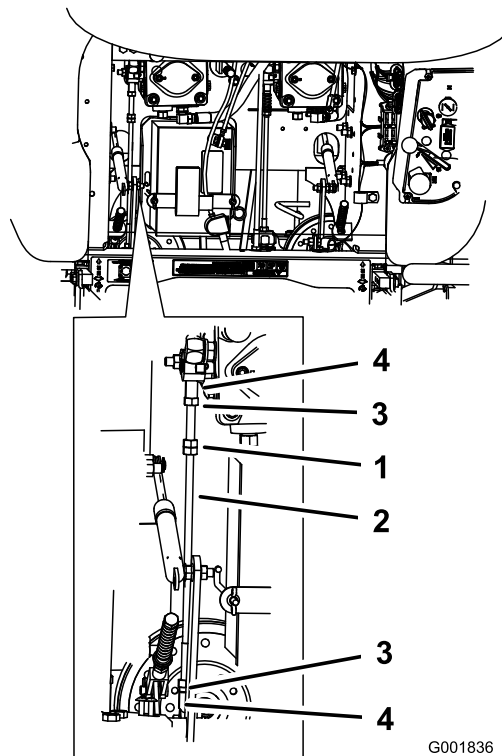

Figure 61
3. Adjust the pump rod length by rotating double nuts on the rod, in the appropriate direction, until the wheel is still or slightly creeps in reverse (Figure 61).
6. Tighten the locknuts at the ball joints (Figure 61).
1. Loosen the locknuts at the ball joints on the pump control rod (Figure 61).